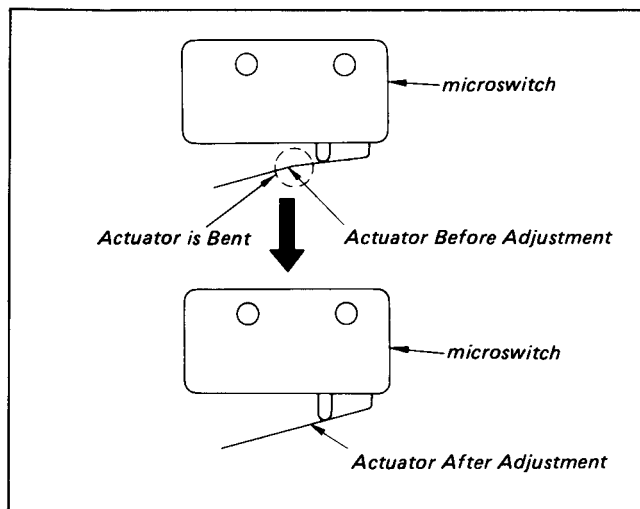

Fig. 3-36. Actuator Adjustment
- 1) If the switch does not trip when the $\phi 1.2$ pin is inserted, loosen small screw ① and adjust by moving in the direction of the arrow little by little.
- 2) The switch actuator is bent as shown in Fig. 3-36 when the switch turns on after inserting a $\phi 0.6$ pin. Check the adjustment.